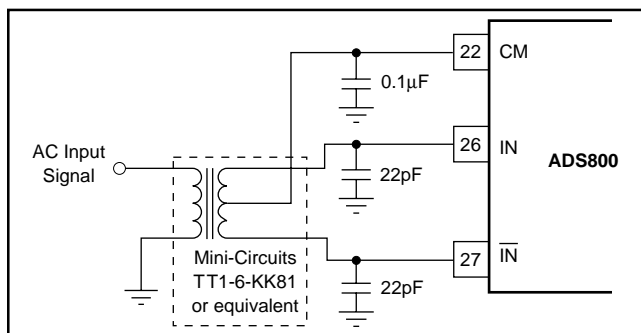

FIGURE 5. AC-Coupled Single-Ended to Differential Drive Circuit Using a Transformer.
The ADS800 has a differential input with a common-mode of +2.25V. For AC-coupled applications, the simplest way to create this differential input is to drive the primary winding of a transformer with a single-ended input. A differential output is created on the secondary if the center tap is tied to the common-mode voltage of +2.25V, as per Figure 5. This transformer-coupled input arrangement provides good high-frequency AC performance. It is important to select a transformer that gives low distortion and does not exhibit core saturation at full-scale voltage levels. Since the transformer does not appreciably load the ladder, there is no need to buffer the Common-Mode (CM) output in this instance. In general, it is advisable to keep the current draw from the CM output pin below 0.5μA to avoid nonlinearity in the internal reference ladder. A FET input operational amplifier such as the OPA130 can provide a buffered reference for driving external circuitry. The analog IN and $\overline{\text{IN}}$ inputs should be bypassed with 22pF capacitors to minimize track-and-hold glitches and to improve high input frequency performance.